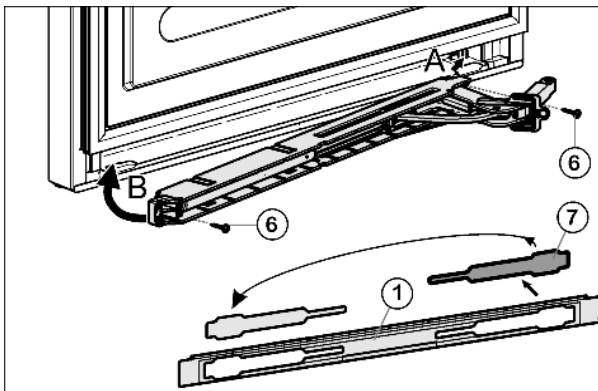

Fig. 14
- ▶ Remove the cover Fig. 14 (7) from the faceplate Fig. 14 (1) and re-insert it at the other side.
- ▶ Engage the soft stop unit with the joint pointing to the hinge side (A) and swivel into place (B).
- ▶ Screw down the soft stop unit (2x Torx 15) Fig. 14 (6).